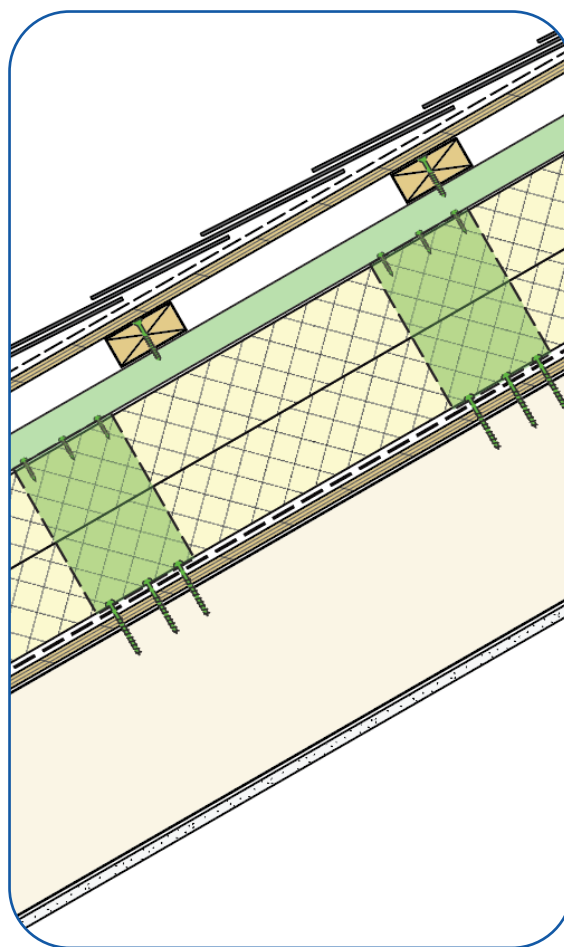

Figure 6 Section view of an exterior-insulated sloped roof showing semi-rigid insulation attachment using intermittent clips and rails.
- Figure 6 Section view of an exterior-insulated sloped roof showing semi-rigid insulation attachment using intermittent clips and rails. . . . . 11